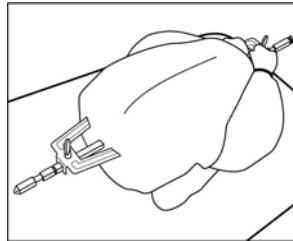

Fig. 2
8. Insert the other rotisserie fork onto the other end of the skewer. Make sure that it is pushed firmly into the roast or chicken and secure with the other thumbscrew. (Fig. 2)